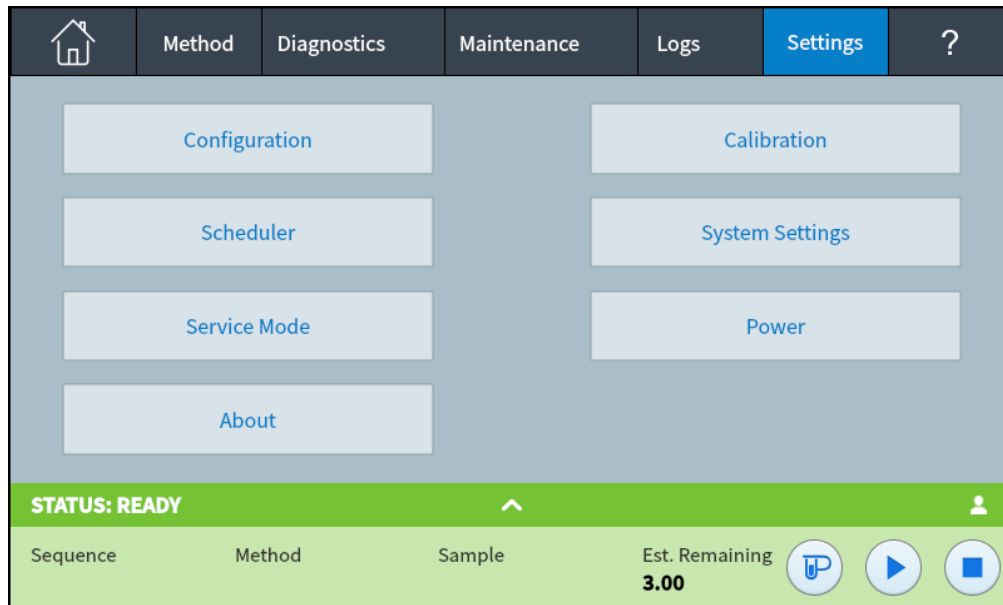

Figure 55. Settings view
- 1 Select **Settings**. The Settings view appears. See **Figure 55**.